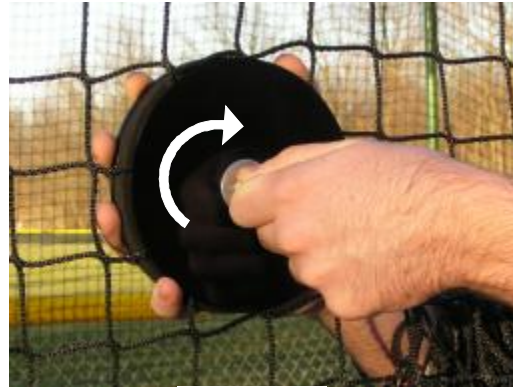

Fig. 10
4. Insert the threaded shaft of the eyebolt into the threaded insert to sandwich the netting between the two discs. Turn the eyelet in a clockwise direction (Fig. 10) until the netting is compressed into the foam. The *NetSaver* is now locked in place and ready to be secured.